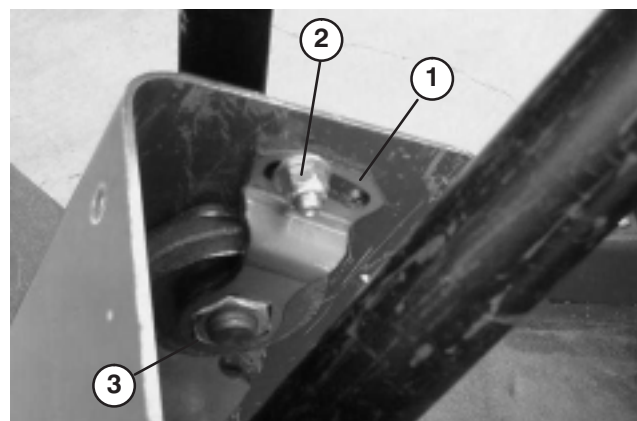

Figure 56
2. Slide cover up steering shaft to expose pivot bracket (Fig. 56).
3. Loosen small nut, rotate pivot bracket until it tightens large nut below (Fig. 56). Retighten small nut.